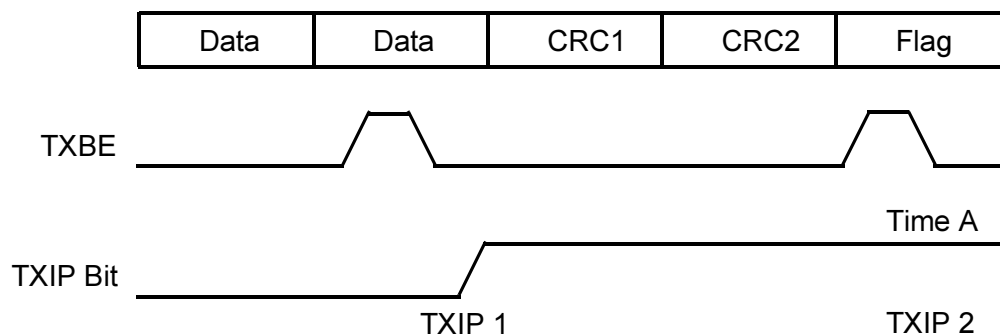

Figure 24. TXIP Latching on the ESCC
The TBE bit, $RR0$ Bit 2, is set (1) whenever the entry location of the Transmit FIFO becomes empty. The TBE bit is reset (0) when the entry location becomes full. The TBE bit means *Transmit Buffer Not Full*, as it is set when the entry location of the Transmit FIFO becomes empty. This bit may be polled at any time to determine if a byte can be written to the FIFO. Figure 24 depicts when the TBE bit is set. $WR7'$ Bit 5 is 1 by a hardware or channel reset.
The ESCC latches the transmit interrupt when the CRC is loaded into the Transmit Shift Register even if the transmit interrupt, due to the last data byte, is not yet reset. Therefore, the end of a synchronous frame is guaranteed to generate two transmit interrupts even if a Reset Tx Int Pending command for the data created interrupt is issued after (Time A in Figure 24) the CRC interrupt had occurred. In this case, two reset TxInt Pending commands are required. The TXIP is latched if the EOM latch has been reset before the end of the frame.